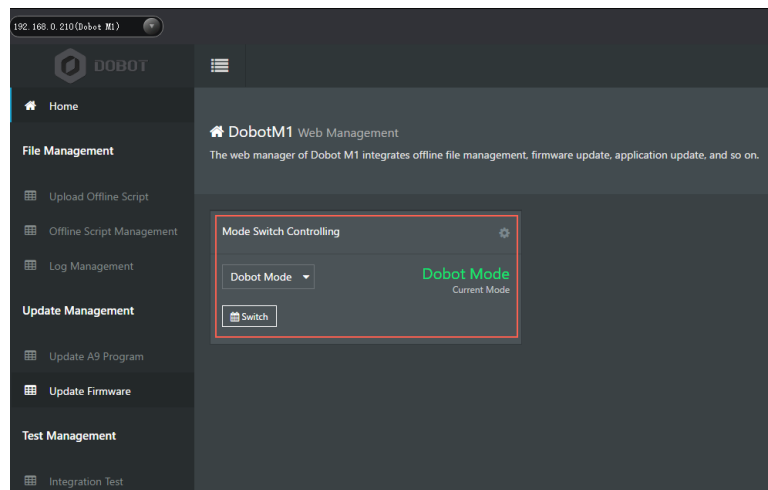

Figure 5.19 Status of Dobot M1
- M1Studio can be connected to Dobot M1 only when Dobot M1 is in Dobot Mode. You can check the current mode of Dobot M1 on the **Tools > Web Management** page, as shown in Figure 5.19. For details, please see 6.9 Operating Web Management.